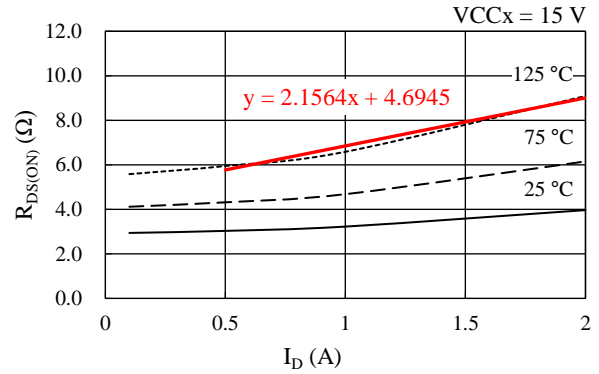

Figure 14-1. Linear Approximate Equation of $R_{DS(ON)}$ vs. I_D
Steady-state loss in a power MOSFET can be computed by using the $R_{DS(ON)}$ vs. I_D curves, listed in Section 15.3.1. As expressed by the curves in Figure 14-1, a linear approximation at a range the I_D is actually used is obtained by: $R_{DS(ON)} = \alpha \times I_D + \beta$. The values gained by the above calculation are then applied as parameters in Equation (4), below. Hence, the equation to obtain the power MOSFET steady-state loss, P_{RON} , is: